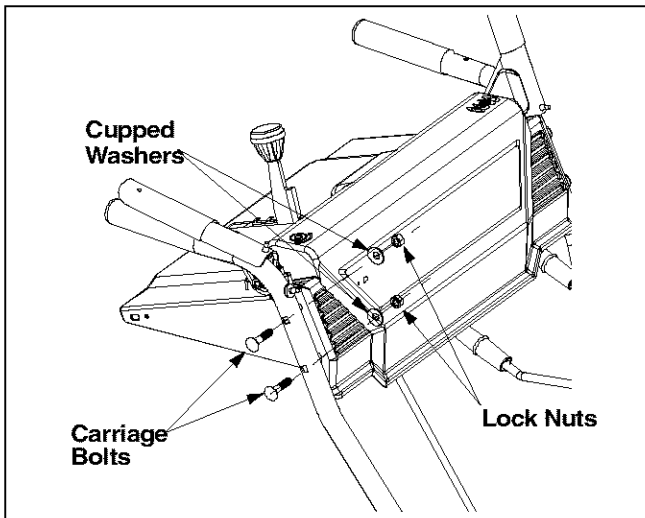

Figure 3
- Place the handle panel in position between the two handles. To hold the handle panel in place, depress both controls against the handles. While continuing to hold the right control, release the left control (the auger control lock will keep left control engaged). See Figure 3.
- Fasten right side of the handle panel by inserting two carriage bolts through handle and handle panel (bolts must go through both the plastic and metal parts of the handle panel). See Figure 3. Secure with cupped washers (cupped side against handle panel) and lock nuts.